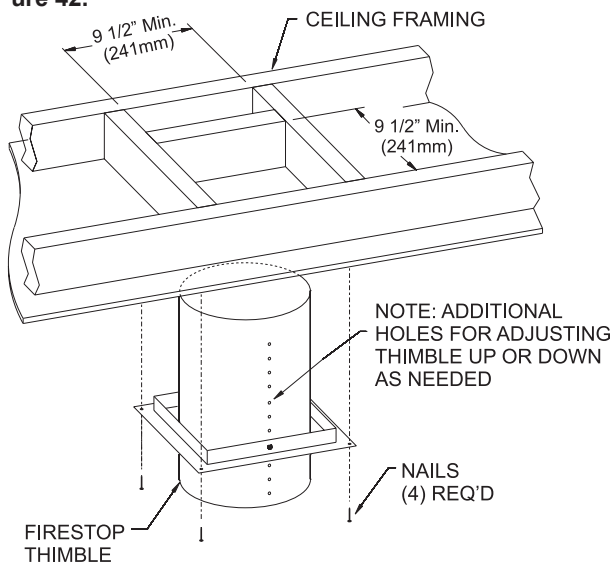

Figure 42
4. Once the fireplace location has been determined, mark the ceiling where the flex vent will pass through. Cut an opening for installation of the firestop thimble assembly. The opening must measure a minimum of 9-1/2" x 9-1/2" square. **See Figure 42.**